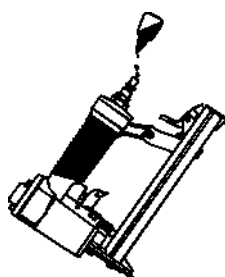

Fig. 3
1. Check whether the tool needs to be lubricated. If necessary, add two drops of oil into the compressed air connection, see fig. 3. If you are using a lubricator, check whether you need to top up with oil.